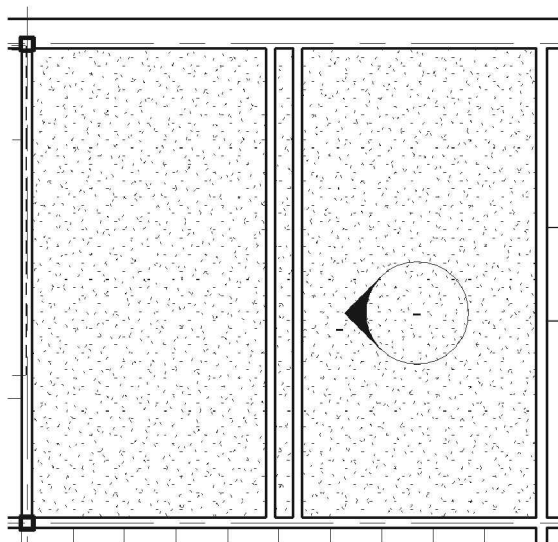

FIGURE 11-1.17 Level 1 RCP
48. Switch to the **Level 1** ceiling plan (Figure 11-1.17).